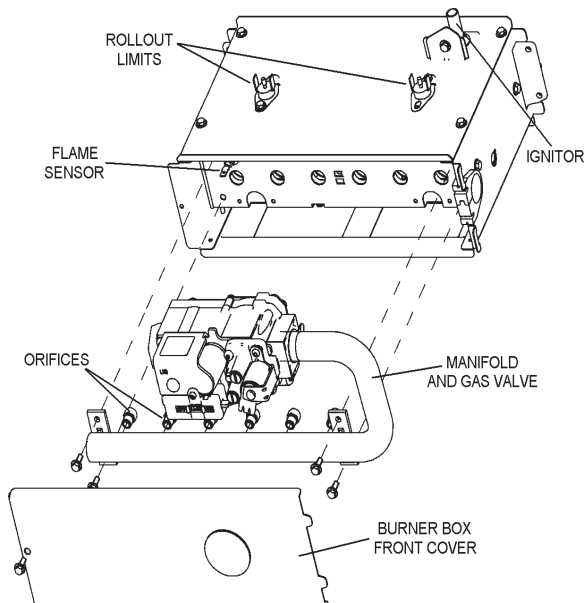

Figure 2
4. On units which have an enclosed burner box, remove the screw that secures the burner box front cover and remove the front cover. See Figures 2 or 4.